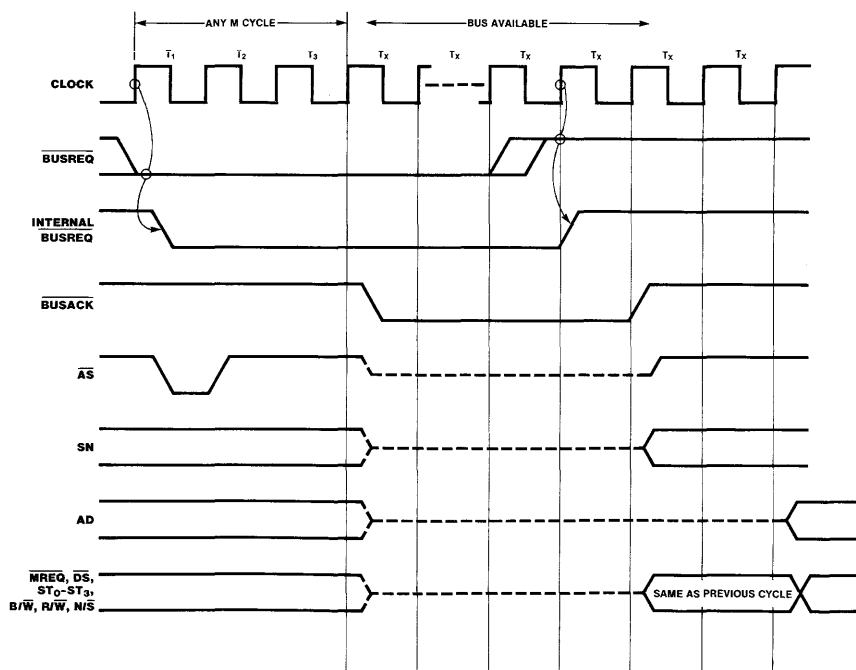

Figure 9-9. Bus Request/Acknowledge Timing
9.6.2 Bus Request. To generate transactions on the bus, a potential bus master (such as the DMA Controller) must gain control of the bus by making a bus request (shown in Figure 9.9). A bus request is initiated by pulling $\overline{\text{BUSREQ}}$ Low. Several bus requesters may be wired to the $\overline{\text{BUSREQ}}$ pin; priorities are resolved externally to the CPU, usually by a priority daisy chain (see the *Z-Bus Summary*).